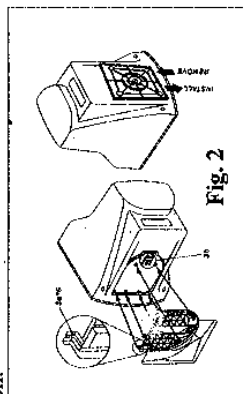

Fig. 2
1.4 How to install/remove the swivel base (Fig. 2)